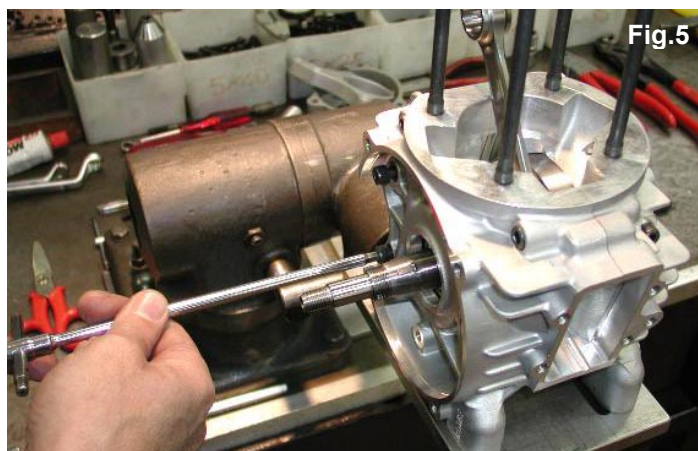

Fig.5
- f) **ASSEMBLE CRANKCASE** (see Fig.5).